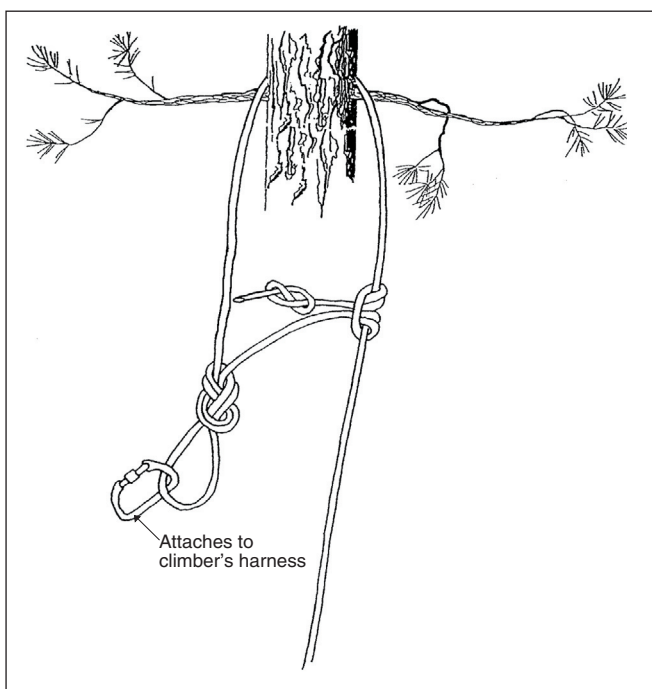

Figure 6o—Rigging the Prusik system, standard method.
1. Place the climbing line around the bole and above one or two branches or a whorl of branches as shown in figures 6o and 6p.
- (1) Using the running end of the mainline, tie a Prusik knot or Blake's hitch on the climbing line and secure the running end with a figure-8 knot within 2 to 4 inches of the Prusik knot (figure 6o).